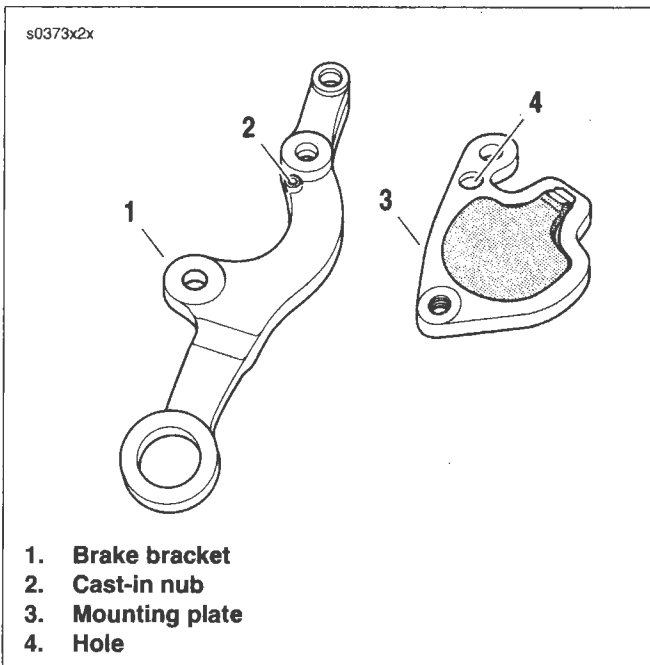

Figure 2-71. Springer Brake Bracket
See Figure 2-71. The Springer brake bracket has a cast-in nub that engages a hole in the mounting plate.
6. Insert the lower mounting bolt (6) through the caliper (5) and the bracket hole.
7. See Figure 2-71. Thread lower mounting bolt into the tapped hole at the lower end of mounting plate. Tighten to 25-30 ft-lbs (33.9-40.7 Nm).